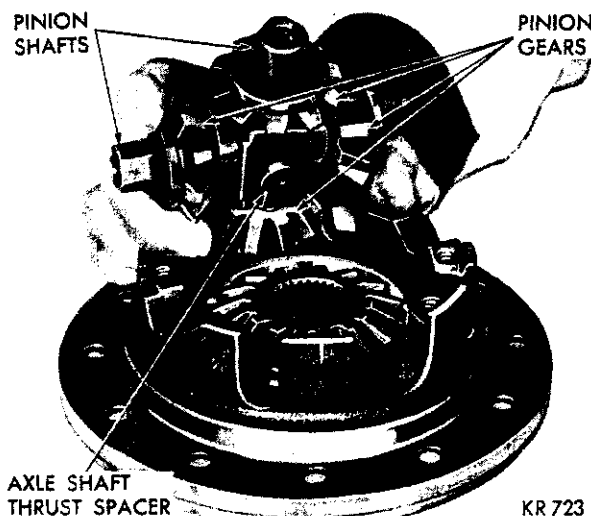

Fig. 28—Removing or Installing Pinion Shafts and Gears
(4) Remove pinion shafts with pinion gears (Fig. 28).